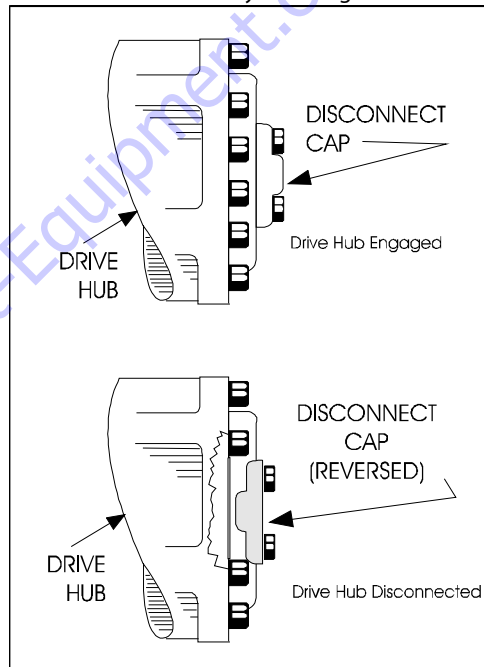

Figure 4-6. Drive Disconnect Hub
3. Disconnect drive hubs by inverting disconnect cap. Refer to Figure 4-6., Drive Disconnect Hub.